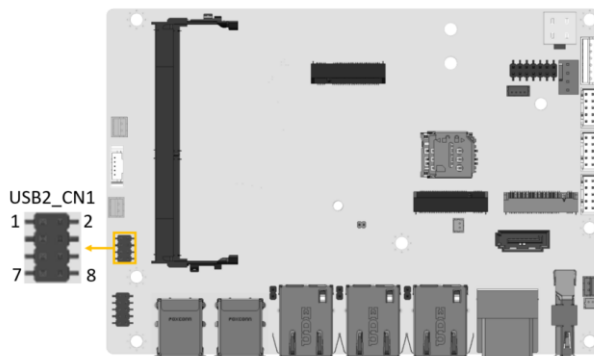

Figure 3-20: USB Connector Location
- CN Location:** See **Figure 3-20**